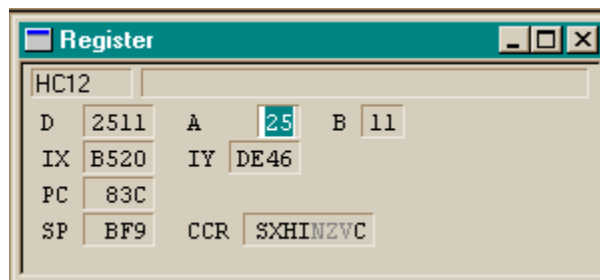

Figure 4-6. Modifying the Content of an Index or Accumulator Register
1. Double click on a register. The current register content is highlighted (**Figure 4-6**) and can be edited.